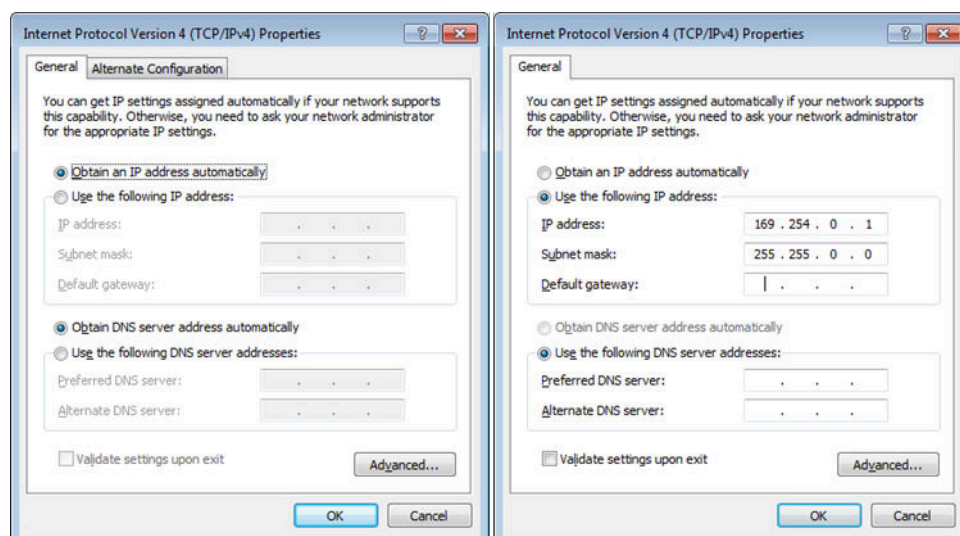

Figure 108: Internet Protocol Version 4 (TCP/IPv4) properties
4. By default the interface is configured to obtain an IP address automatically by a DHCP server, shown in Figure 108, usually provided by routers or dedicated servers. A fixed IP address and Subnet mask can be entered like shown in Figure 108 right, after choosing *Use the following IP address*.